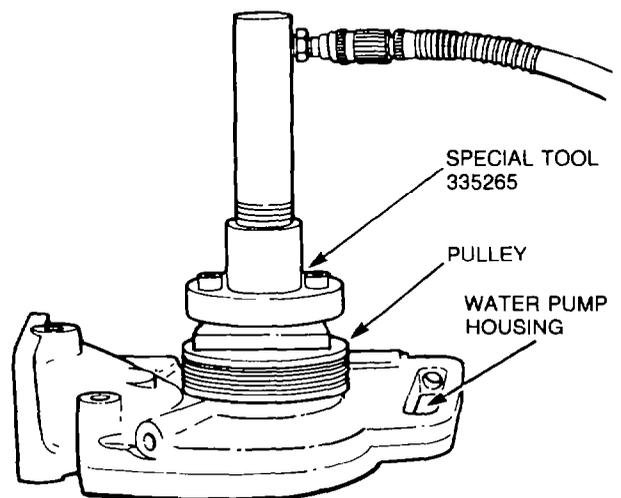

Figure 59 — Water Pump Pulley — Removal
- c. Using special tool 3375265 as shown in Fig. 59, remove the pulley and the impeller from the water pump shaft.